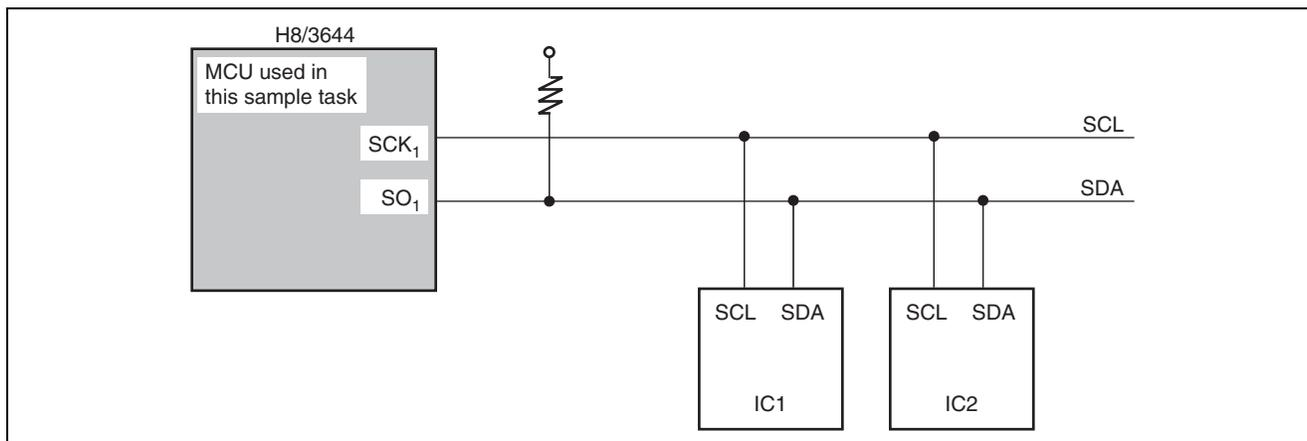

Figure 1.1 Example of SSB Connection
As shown in figure 1.1, IC1 and IC2, which are connected by a serial clock (SCL) and a serial data (SDA) line, are controlled using an SSB communication function.
- As shown in figure 1.1, IC1 and IC2, which are connected by a serial clock (SCL) and a serial data (SDA) line, are controlled using an SSB communication function.